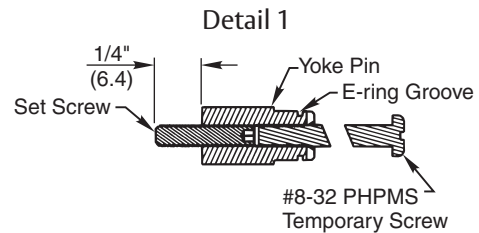
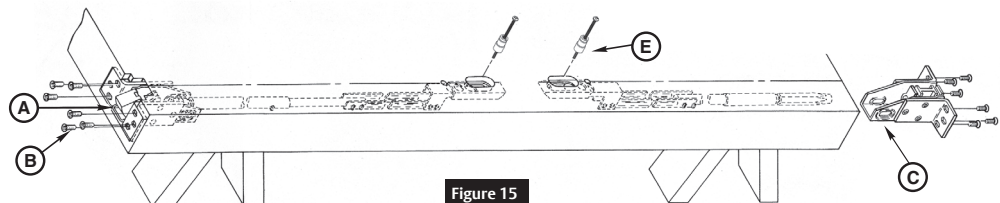

Figure 14
Figure 15
- A. Slide rod assemblies into door. (Figure 15)
- B. Attach top latch with six (6) #10-24 X 1/2" PFHMS.
- C. Install bottom bolt case with six (6) #10-24 X 1/2" PFHMS.
- D. Thread set screw into yoke pins (Insert with hex socket end inside pin). Thread #8-32 X 2" PHPMS screws into slotted end of yoke pins until seated to hex head set screw. (Detail 1 - Figure 14)
- E. Install two (2) yoke pin assemblies into arm and bracket assemblies.